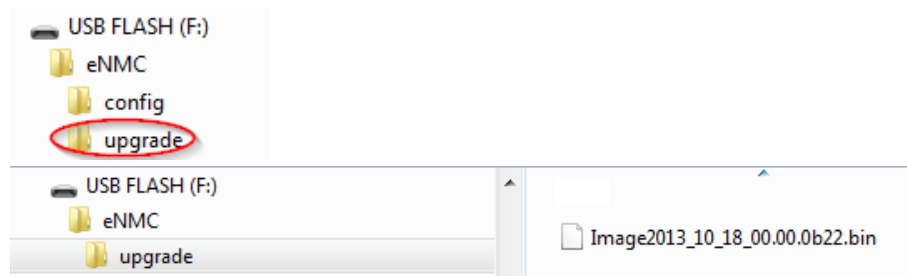

Figure 58. Root Directory of Flash Disk
3. Connect a USB drive to your computer and put the Image*.bin file in the eNMC/upgrade/ location on the USB drive root directory (see Figure 58).